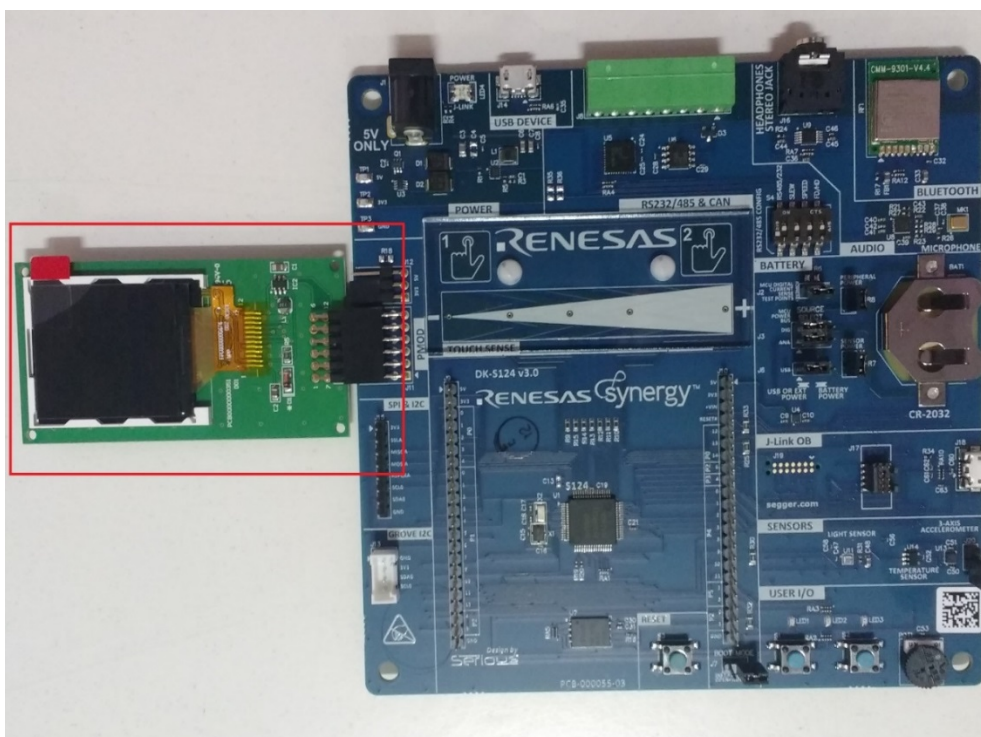

Figure 3. Okaya PMOD display connected to J11 PMOD™ socket
3. Connect Okaya PMOD™ display to J11 (Figure 3).